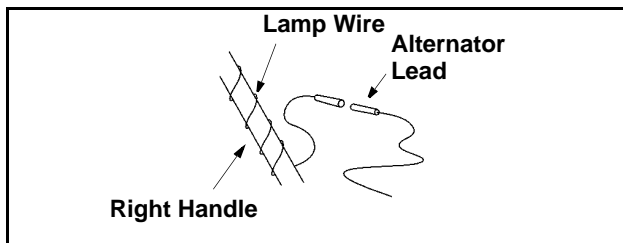

Figure 5
7. Unwrap the headlight wire which is attached to the headlight, beneath the handle panel. Wind it around the right handle several times to remove excess slack in the wire. See Figure 5.